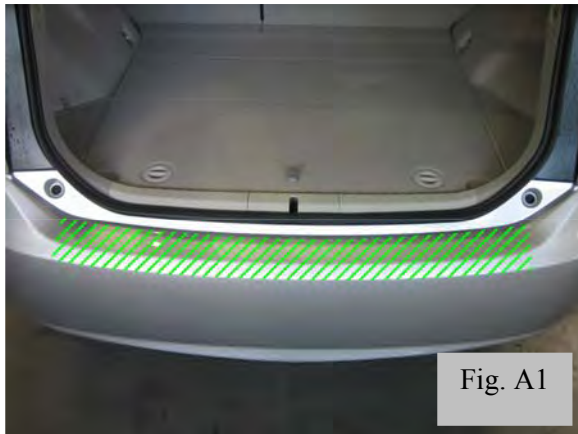

Fig. A1
4. Make sure that all Bumper installation surfaces are free of dirt and/or grease. (Fig. A1)